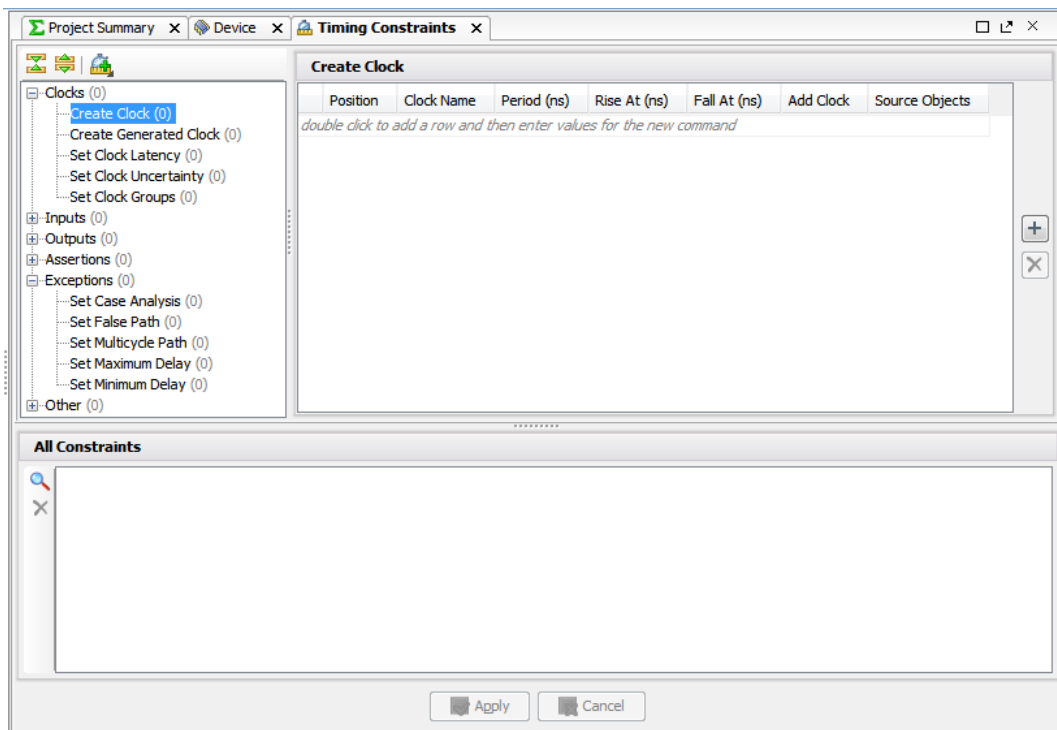

Figure 7: Timing Constraints window
- **Constraints tree view:** Located in the upper-left of the Timing Constraints window, as shown in Figure 7: Timing Constraints window. This section displays standard timing constraints, grouped by category. Double-clicking on a constraint in this section opens a Constraints wizard to help you define the selected constraint.
- **Constraints Spreadsheet:** Located in the upper right of Figure 7. This section displays timing constraints of the type currently selected in the Constraints tree view. You can use this to directly define or edit constraints instead of the Constraints wizard if you prefer.
Notice that the Constraints spreadsheet displays different columns for Set Input Delay than for the Create Clock constraint as shown in Figure 7.